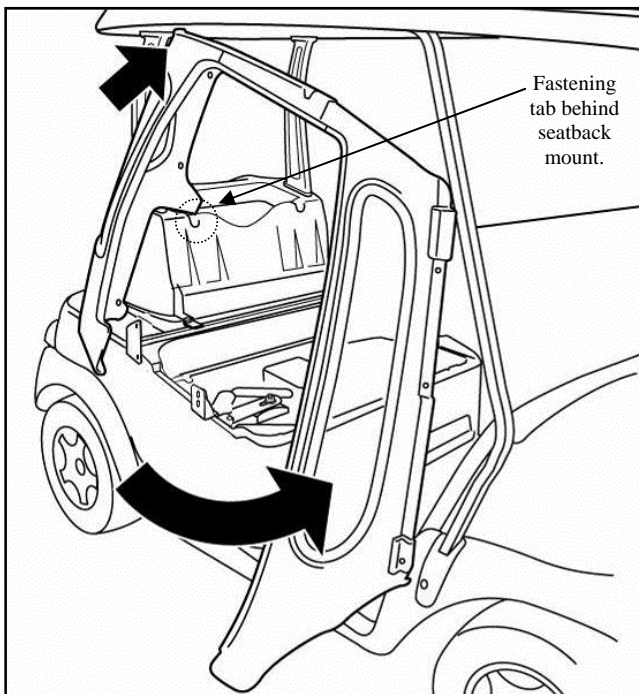

Figure 5: Position Side Frame
2.1. Position side frame assembly as shown (Figure 5) (door is not shown for better clarity) making sure that the plastic fastening tab is behind the seatback mount and the top rear is underneath the edge of the roof. Rotate the front up into position making sure that the front panel is on the inside of the windshield support tubes. The mounting bracket at the top of the side frame should be positioned in the same spot where the grab handle was originally located. Adjust the sideframe forward or backwards to align the front panel with the windshield and to align the fastener holes as best as possible.